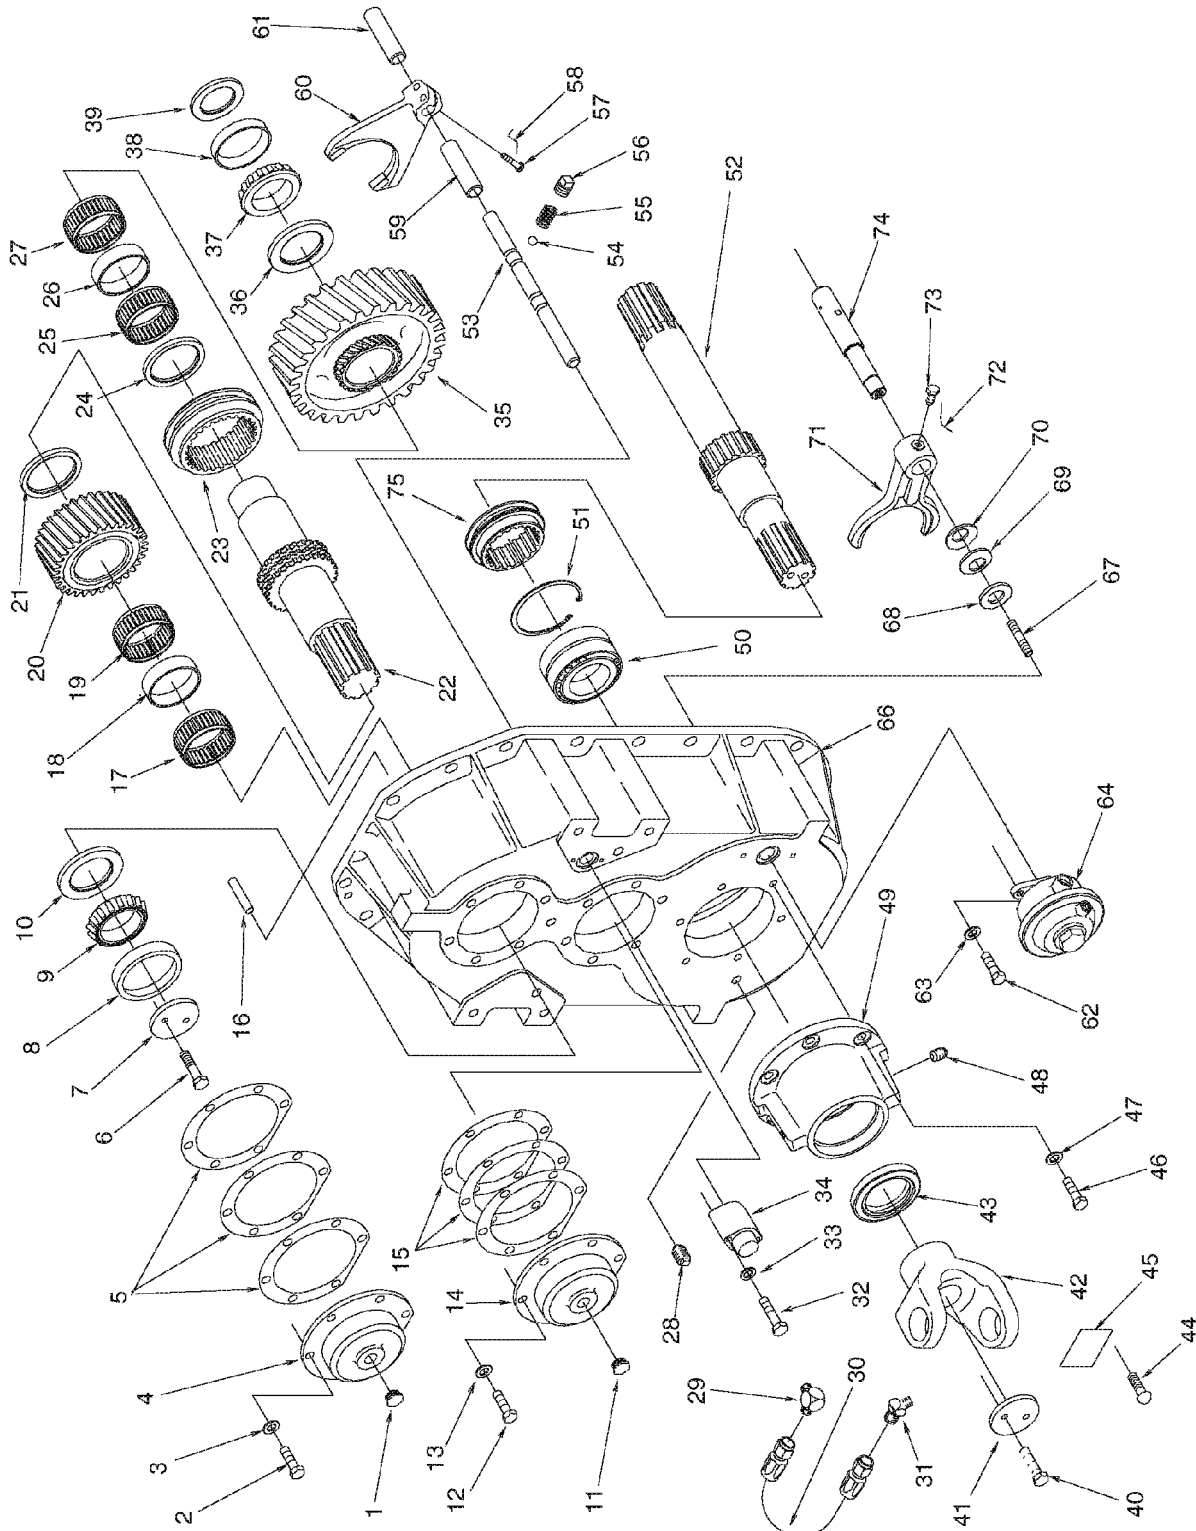
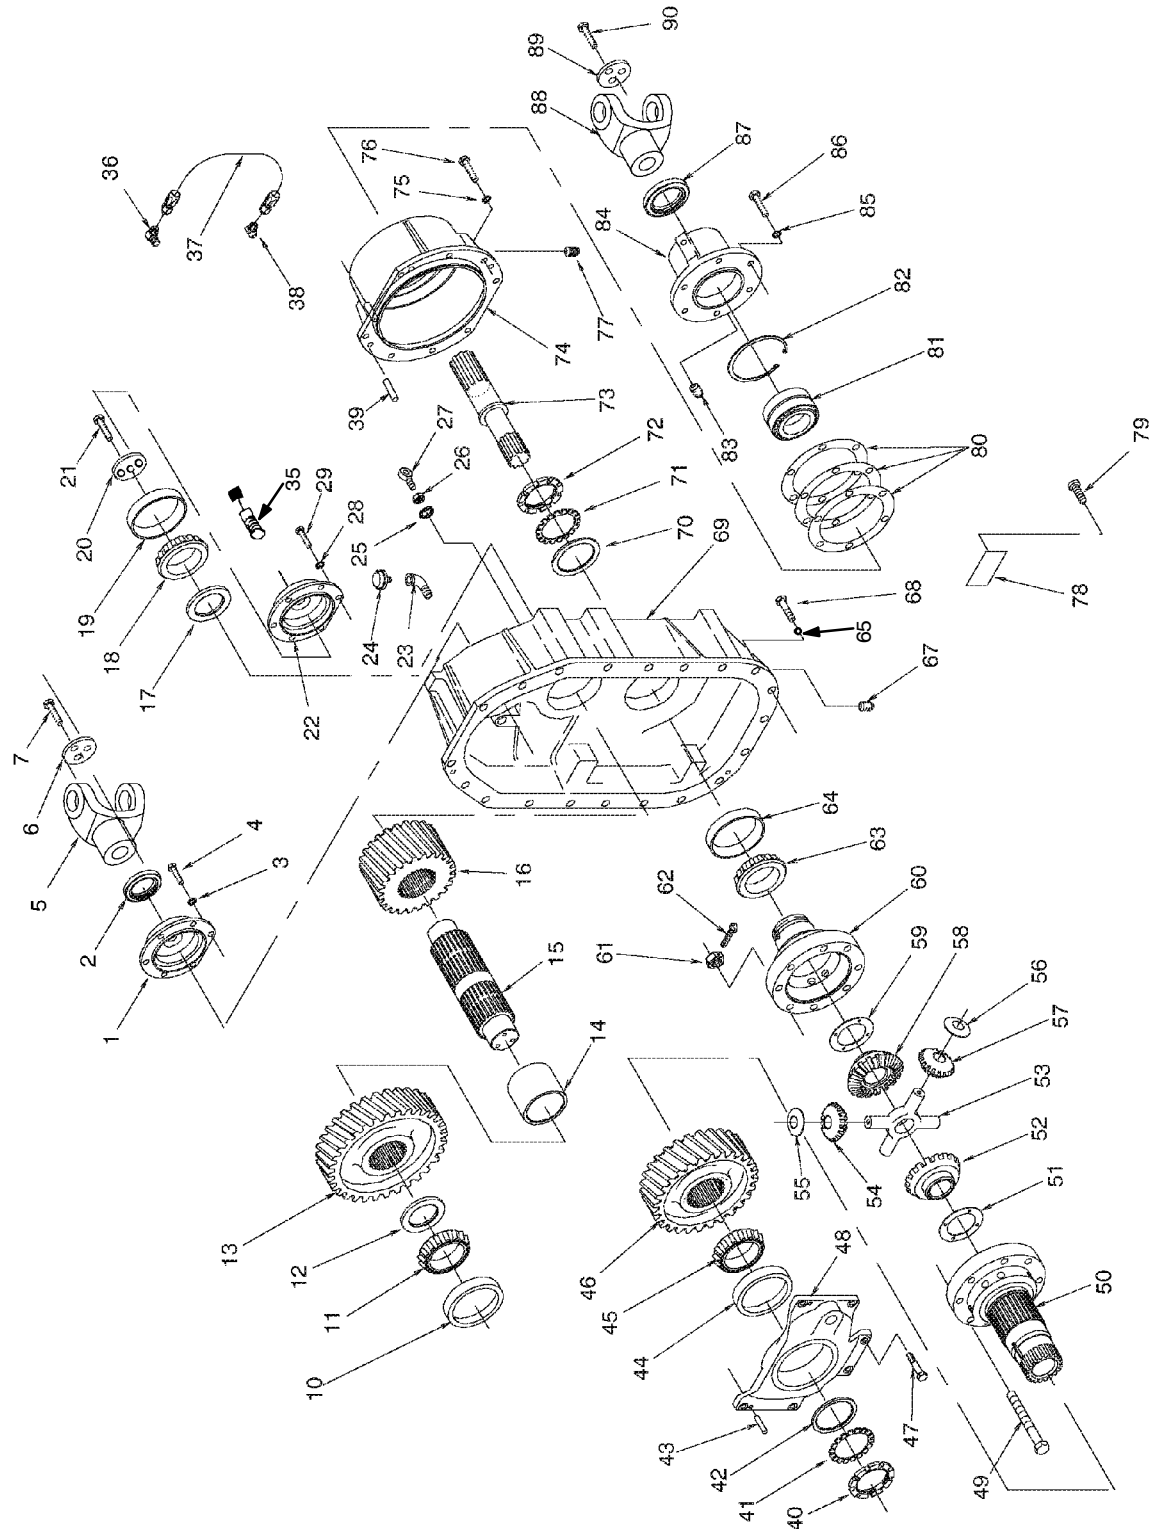

Figure 2. Transfer Case Assembly (Rear Housing).
Figure 3. Transfer Case Assembly (Front Housing).
Legend for Figure 2.
Legend for Figure 3.
- (1) Position transfer case in maintenance stand, with front housing (Figure 3, Item 69) facing up.
- (2) Remove two capscrews (Figure 3, Item 7) and end plate (6) from upper shaft (15).
- (3) Using a puller remove yoke (Figure 3, Item 5) from upper shaft (15).
- (4) Remove two capscrews (Figure 3, Item 90) and end plate (89) from shaft (73).
- (5) Using a puller remove yoke (Figure 3, Item 88) from shaft (73).
- (6) Tag and disconnect hose (Figure 3, Item 37) from adapters (36 and 38).
- (7) Remove six capscrews (Figure 3, Item 86), lockwashers (85), bearing cap (84), three shims (80) and lower front output shaft assembly from enclosure (74) and bevel gear differential.
- (8) Remove eight capscrews (Figure 3, Item 76) and lockwashers (75) from enclosure (74) and front housing (69).
- (9) Install jack bolts in holes on enclosure (Figure 3, Item 74), tighten alternately to separate enclosure from front housing (69) and dowel pin (39). Remove enclosure (74).
- (10) Using a suitable lifting device, remove bevel gear differential assembly from transfer case.
- (11) Remove speedometer sending unit (Figure 3, Item 35) from end cap (22).
- (12) Remove six capscrews (Figure 3, Item 29), lockwashers (28), and end cap (22), from front housing (69).
- (13) Remove oil seal (Figure 3, Item 2), six capscrews (4), lockwasher (3), and end cap (1) from front housing (69).
- (14) Loosen jam nut (Figure 3, Item 26) and remove rod end (27) and oil seal (25) from upper shift rod (Figure 2, Item 53).
- (15) Remove breather (Figure 3, Item 24), elbow (23) and adapters (36 and 38) from front housing (69).
- (16) Position transfer case in maintenance stand with rear housing (Figure 2, Item 66) facing up.
- (17) Tag and disconnect hose (Figure 2, Item 30) from adapters (29 and 31)
- (18) Remove two capscrews (Figure 2, Item 32), lockwashers (33), and upper shift cover (34) from rear housing (66).
- (19) Remove two capscrews (Figure 2, Item 62), lockwashers (63), and air differential chamber (64) from rear housing (66).
- (20) Remove two adapters (Figure 2, Items 29 and 31) from rear housing (66) and bearing cap (49).
- (21) Remove two capscrews (Figure 2, Item 40) and end plate (41) from shaft (52).
- (22) Using a puller, remove yoke (Figure 2, Item 42) from shaft (52).
- (23) Remove six capscrews (Figure 2, Item 46), lockwashers (47), bearing cap (49), and lower rear shaft assembly from rear housing (66).
- (24) Remove six capscrews (Figure 2, Item 12), lockwashers (13), end cap (14) and shims (15) from rear housing (66).
- (25) Remove six capscrews (Figure 2, Item 2), lockwashers (3), end cap (4) and shims (5) from rear housing (66).
- (26) Remove plug (Figure 2, Item 56), outer detent spring (55) and outer detent ball (54) from rear housing (66).
- (27) Remove 20 capscrews (Figure 3, Item 68), and flatwashers (65) from rear housing (Figure 2, Item 66) and front housing (Figure 3, Item 69).
- (28) Using a suitable lifting device separate transfer case halves using jack bolt locations provided at top and bottom. Remove rear housing (Figure 2, Item 66) from front housing (Figure 3, Item 69) keeping it parallel to prevent binding of the shift rod assembly and dowel pins in the transfer case halves.